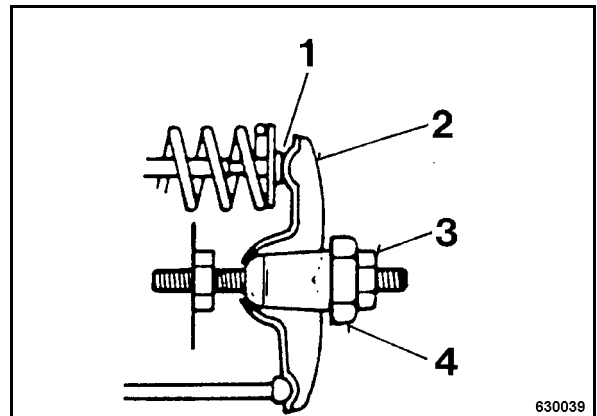

Fig. 59
- Hold hexagon nut (4) (Fig. 59) on the rocker lever and loosen counter nut (3).
- Adjust hexagon nut (4) on the rocker arm so that the feeler gauge fits between rocker arm and valve shaft (1) with noticeable resistance after retightening counter nut (3).